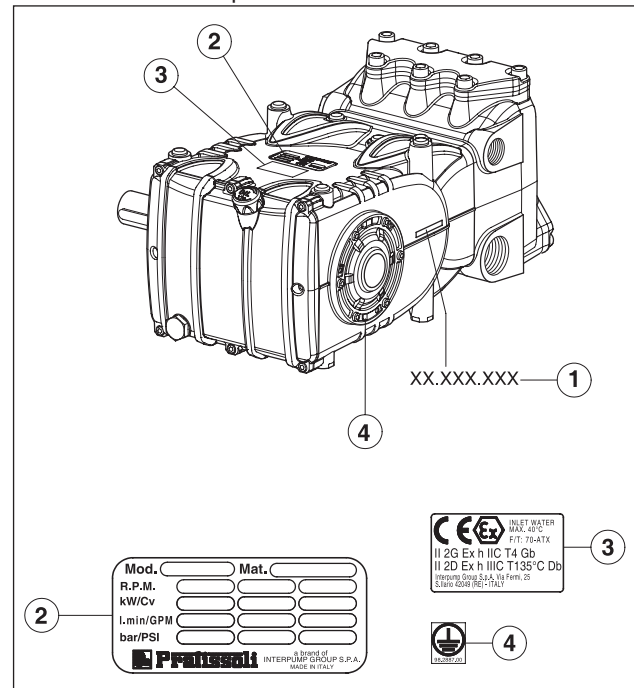

Fig. 1
Each pump has its own Serial No. XX.XXX.XXX see point ① and an identification plate see point ② in Fig. 1 which shows: